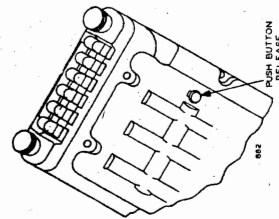

Fig. 2A—
7. When the last pushbutton has been properly set up, it is necessary to release it from the latched-in position before the tuner mechanism can be locked. To release this pushbutton, press the pushbutton release pin on the bottom of the tuner unit. This will trip the latching mechanism and all the pushbuttons will be released to out position. (See Fig. 2A).